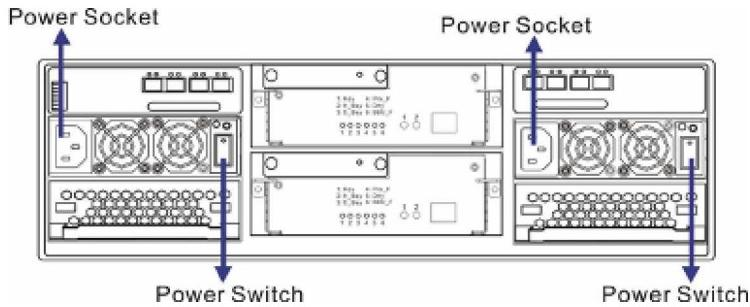

Figure 4-7: Power Sockets and Power Switches
- Turn the two (2) power switches on. (See *Figure 4-7*) Each switch controls a single PSU, therefore make sure that both switches are turned on.